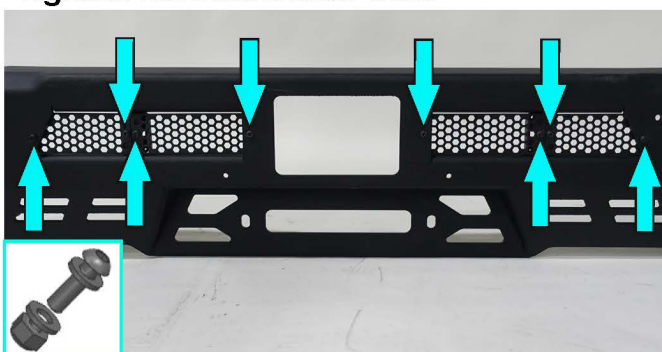

Fig.34
34. Install grilles (item 16, 17) on bumper body as shown in fig. 34. Fix using screws M6x20, nuts M6 and washers 6 (item A, O, H).